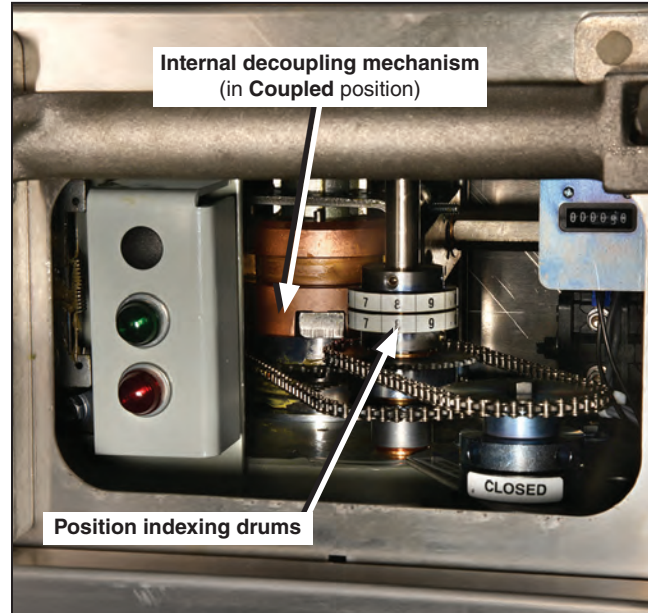

Figure 49. Verify the switch operator is coupled.
- STEP 4.** Lower the handle to engage the locking tab. Verify the switch is **Coupled**. See Figure 49.